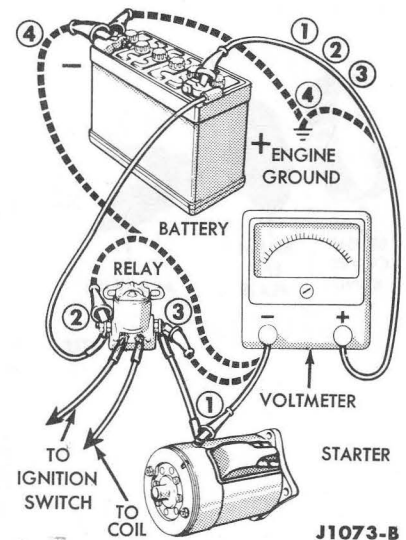

FIG. 9—Starter Circuit Test
Excessive resistance in the starter circuit can be determined from the results of this test. Make the test connections as shown in Fig. 9. Crank the engine with the ignition OFF. This test is accomplished by disconnecting and grounding the high tension lead from the spark coil and by connecting a jumper from the battery terminal of the starter relay to the ignition switch terminal of the relay.
1. With the voltmeter negative lead connected to the starter terminal and the positive lead connected to the battery positive terminal (Fig. 9, connection ①) 0.5 volt.
2. With the voltmeter negative lead connected to the battery terminal of the starter relay and the positive lead connected to the positive terminal of the battery (Fig. 9, connection ②) 0.1 volt.
3. With the voltmeter negative lead connected to the starter terminal of the starter relay and the positive lead connected to the positive terminal of the battery (Fig. 9, connection ③) 0.3 volt.
4. With the voltmeter negative lead connected to the negative terminal of the battery and the positive lead connected to the engine ground (Fig. 9, connection ④) ... 0.1 volt.